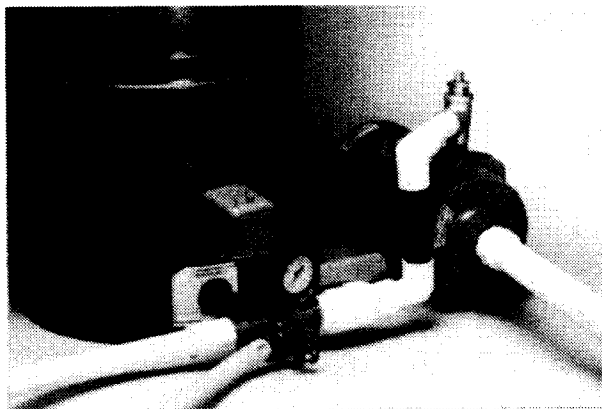

Fig. 9
1. Release pressure in system by draining at discharge outlet normally located in discharge line leading from pressure tank. Connect a section of water hose to outlet to assist in draining water to an outside area, if possible, being careful not to elevate hose higher than drain outlet. (Fig. 9)